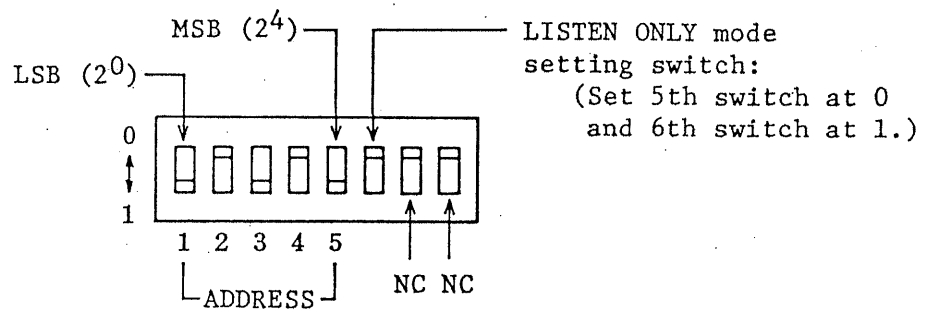

Figure 3-4
- o An address for the Synthesizer on the GP-IB bus can be set with the address setting switches (8-element DIP switches). Elements 1 - 5 are for setting an address for the Synthesizer. An address number can be set in the binary presentation for 0 - 31. In the case of the example shown in Figure 3-4, the address number of the Synthesizer is binary 10101, or decimal 21.